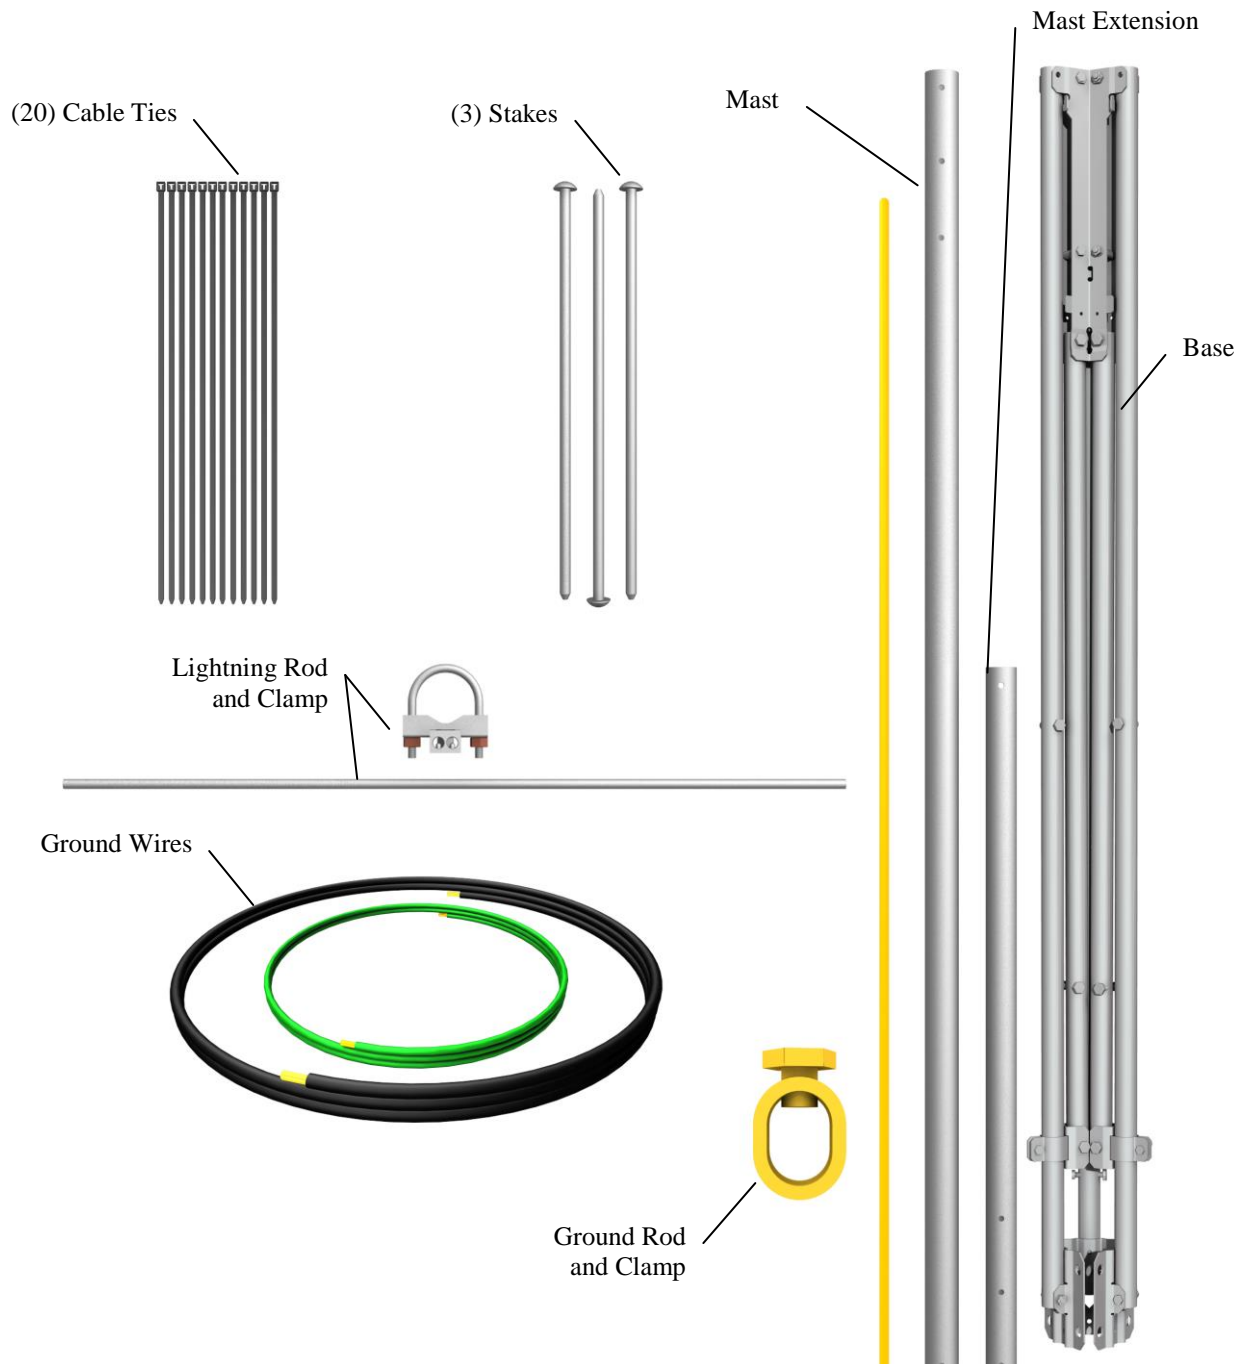

Figure 3-1. Tripod components
Figure 3-1 shows the tripod components. The tripod base is packaged with the mast, mast extension, ground rod, lightning rod, and (3) stakes. The ground rod clamp, lightning rod, lightning rod clamp, cable ties, and ground wires are enclosed in a bag. The optional guy kit is packaged separately.